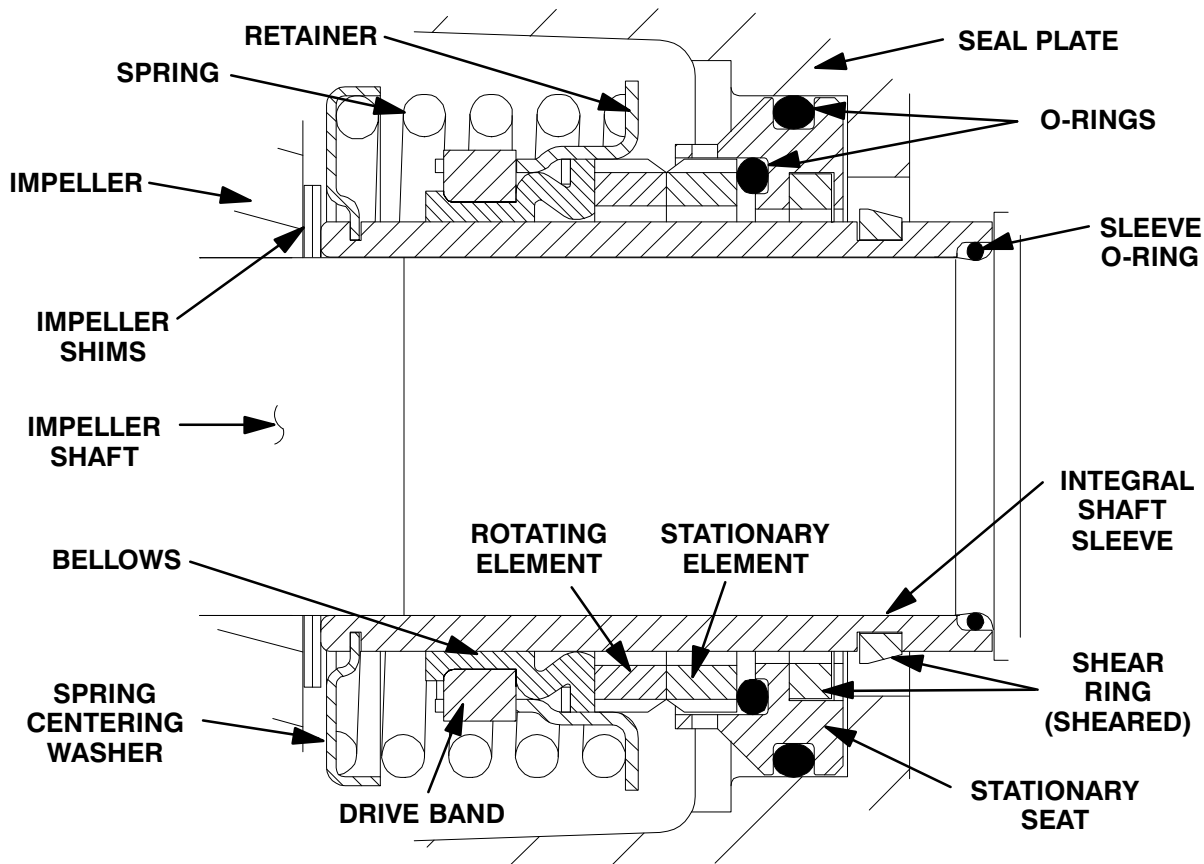

Figure 8. Seal Assembly
sleeve O-ring (14) and the external stationary seat O-ring with a very **small** amount of light lubricating oil. See Figure 8 for seal part identification.